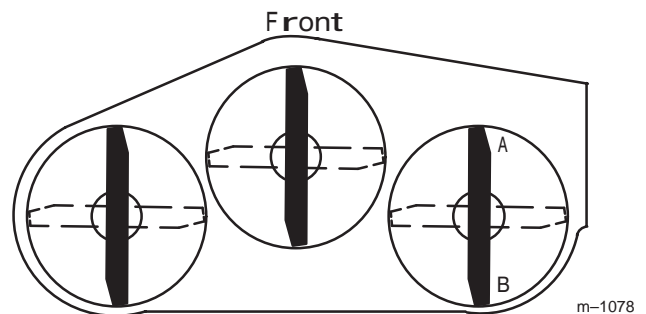
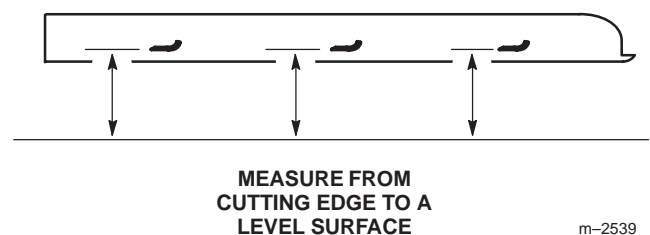

Figure 61
Figure 62
1. Position the **right** blade front-to-rear (Fig. 61).
2. Measure the right blade at the **A** location (Fig. 61), from a level surface to the cutting edge of the blade tip (Fig. 62).
4. Measure the right blade at the **B** location (Fig. 61), from a level surface to the cutting edge of the blade tip (Fig. 62).
6. The mower blade should be a **1/4 to 3/8 inch (6 to 10 mm) lower at position A than at position B** (Fig. 61). If it is not correct, proceed to the following steps.